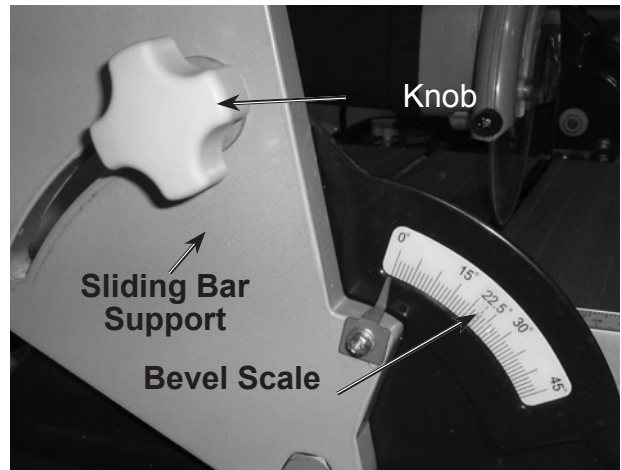

Fig. 4
6. **Beveled cuts can also be accomplished by loosening the Knobs (D27) on either side of the saw. Tilt the Sliding Supports, and blade/motor assembly as a unit. There is a scale and indexing pointer on the Sliding Supports indicating angle of tilt. (See Fig. 4.)**